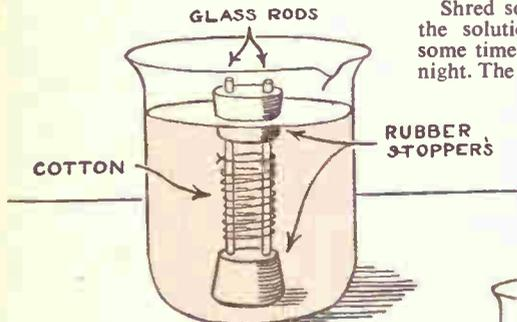

Fig. 1 Mercerising silk
Fig. 1 shows the general layout with the various parts lettered. The base (A)
Piece (E) is a 2½in. turned wooden ball (price 1/3 from Hobbies Ltd. Dereham, Norfolk), which is secured to the base (A) by means of a countersunk screw (Fig. 1). The ball is drilled to take the flex as indicated by the dotted lines.
Repeat the experiment with the cotton under tension, using the apparatus shown in Fig. 1. Wash and dry the cotton still under tension. It will now have a lustre. This is mercerised cotton, and though still not as pleasant as silk to look at or handle, it is an improvement.